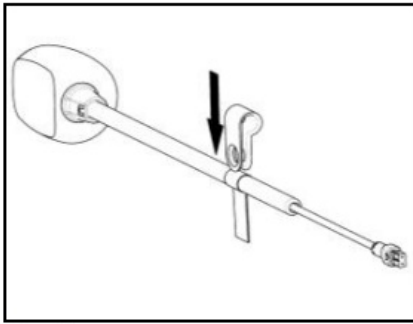

Fig. 41
- Insert the microphone securing clip (Fig. 41).